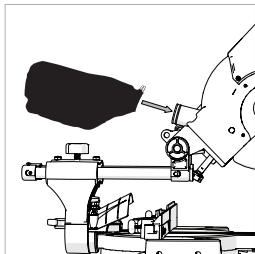

Fig. 41
- Slide the Dust Bag over the dust extraction port, ensuring that the spring clip grips the port holding the Dust Bag securely in place. **(Fig. 41)**